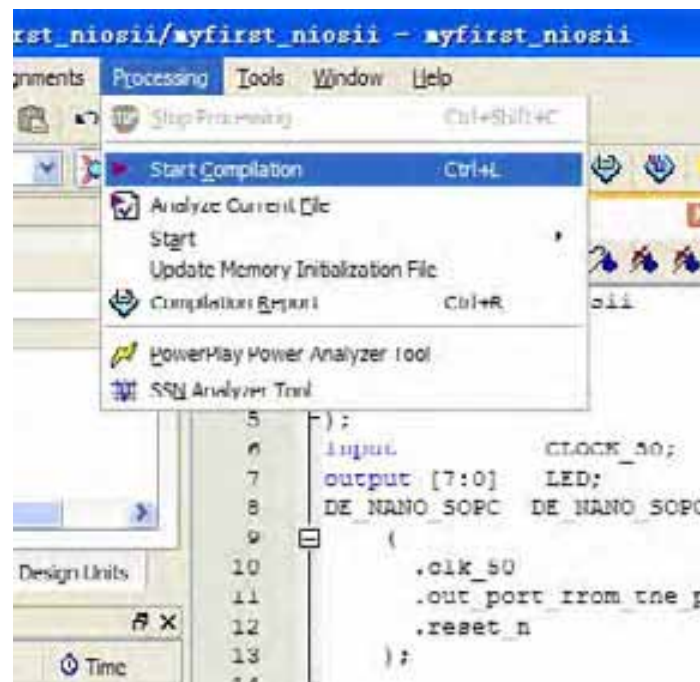
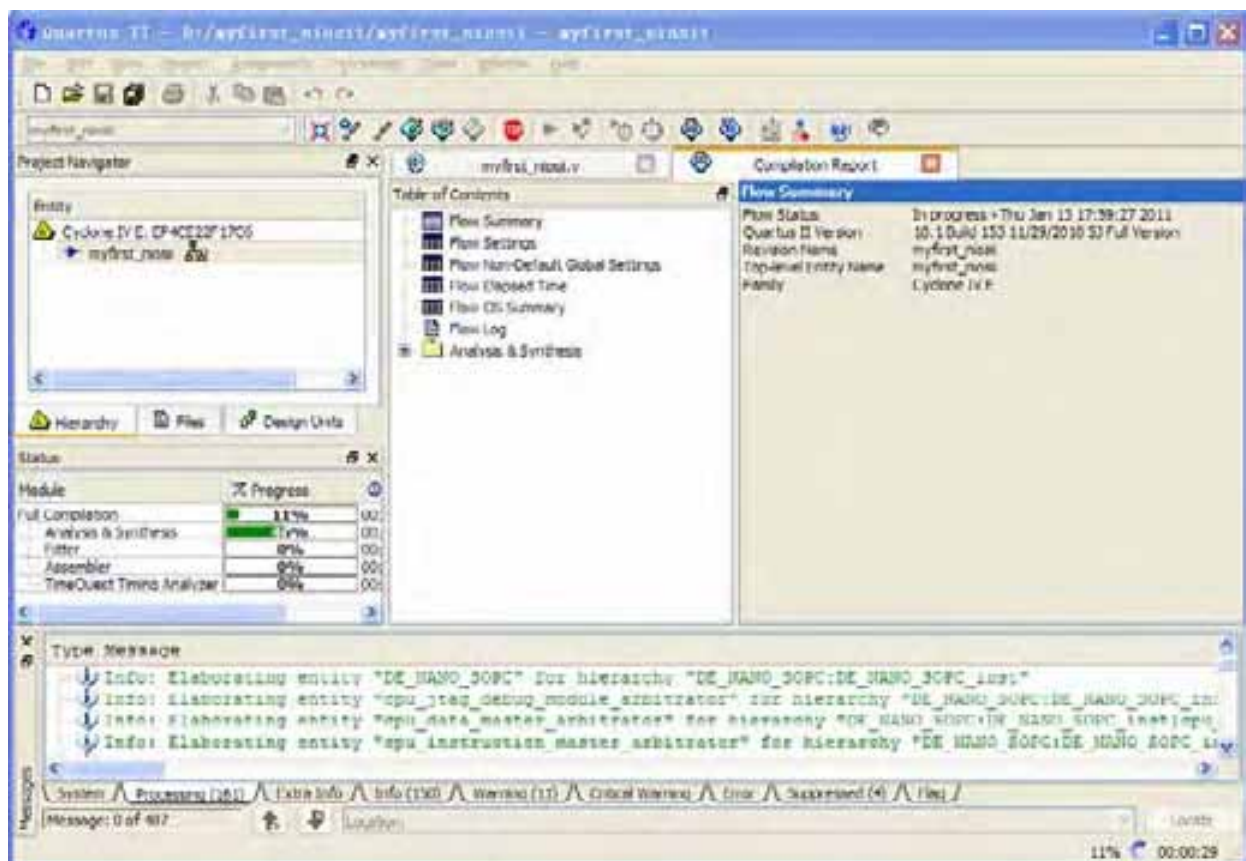

Figure 7-47 Start Compilation
Figure 7-48 Execute Compile
36. Compile the project, by selecting **Processing > Start Compilation**, as shown in **Figure 7-47**. **Figure 7-48** shows the compilation process.